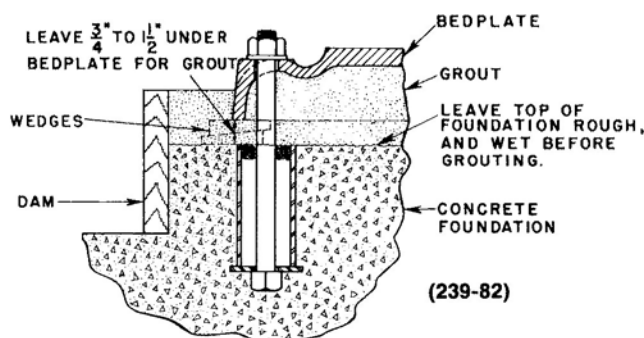

Figure 1:
- b) Each bolt should be installed with a pipe sleeve around it - to allow for adjustment. The inside sleeve diameter should be $2\frac{1}{2}$ to 3 times the diameter of the bolt. Place a washer between bolt head and sleeve to hold bolt in position. Stuff waste around foundation bolts to prevent concrete from entering between the bolt and pipe sleeve. See Figure 1: on page 9.
- c) The foundation bolts should be of sufficient length so that they project through the nut approximately $\frac{1}{4}$ " after allowance has been made for grouting ($\frac{3}{4}$ " to $1\frac{1}{2}$ "), the thickness of the bedplate, and the thickness of the foundation bolt nut. See Figure 1: on page 9.
- a) Build wood dam around foundation as shown in Figure 1: on page 9. Wet top surface of concrete foundation thoroughly.